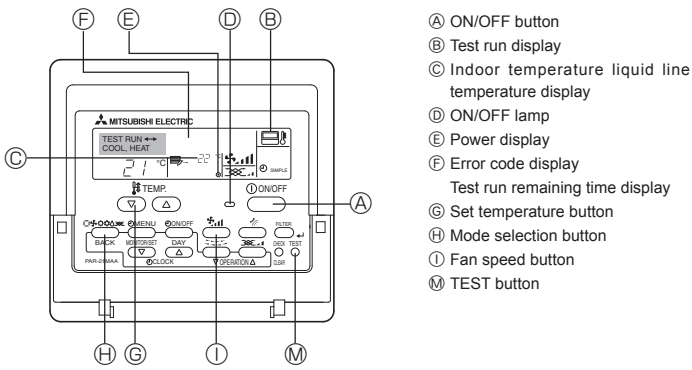

Fig. 9-2
9.2.2. Wired remote controller (Fig. 9-2)
- ① Turn on the power at least 12 hours before the test run.
- ② Press the [TEST] button twice. → "TEST RUN" liquid crystal display
- ③ Press the [Mode selection] button. → Make sure that wind is blown out.
- ④ Press the [Mode selection] button and switch to the cooling (or heating) mode. → Make sure that cold (or warm) wind is blown out.
- ⑤ Press the [Fan speed] button. → Make sure that the wind speed is switched.
- ⑥ Check operation of the outdoor unit fan.
- ⑦ Release test run by pressing the [ON/OFF] button. → Stop
- ⑧ Register a telephone number.